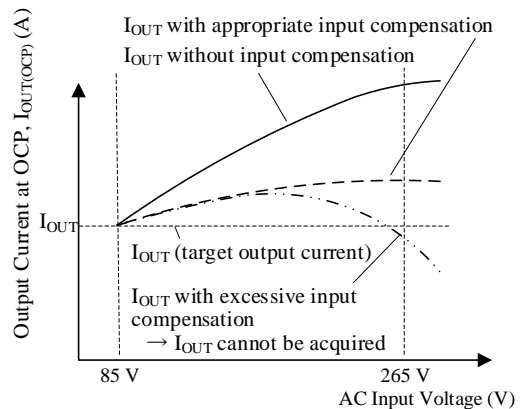
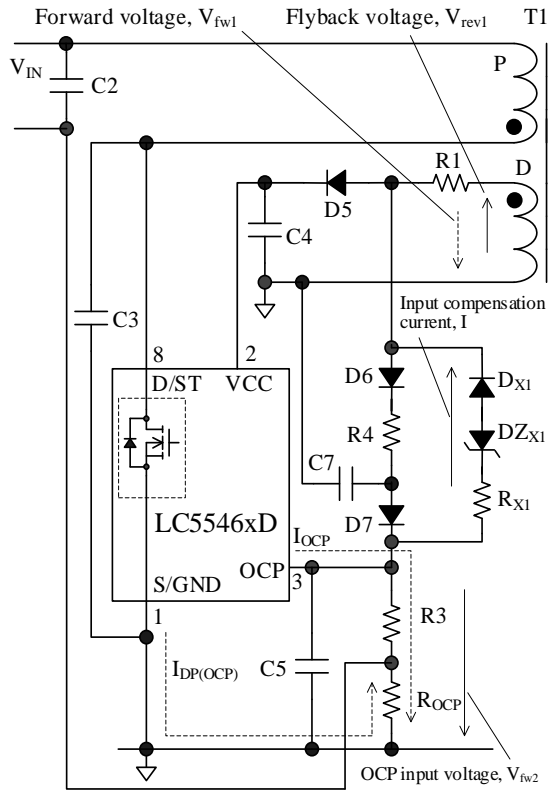
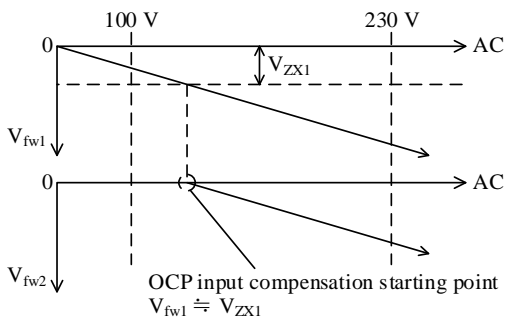

Figure 9-30. AC Input Voltage vs. Output Current at OCP (with or without OCP Input Compensation Function)
Figure 9-31. OCP Input Compensation Circuit
Figure 9-32. V_{fw1} and V_{fw2} vs. AC Input Voltages
Figure 9-30 shows the relationship between AC input voltage and the output current at OCP activation, $I_{OUT(OCP)}$, with the OCP input compensation function being activated or deactivated. When the IC without the input compensation, $I_{OUT(OCP)}$ increases as the AC input voltage increases (see “ I_{OUT} without input compensation” in Figure 9-30). To regulate $I_{OUT(OCP)}$ at the maximum AC input voltage, add the OCP input compensation circuit (D_{X1} , DZ_{X1} , R_{X1}) as shown in Figure 9-31. The values of these components should be adjusted so that $I_{OUT(OCP)}$ at the maximum AC input voltage exceeds the target output current, I_{OUT} (see “ I_{OUT} with appropriate input compensation” in Figure 9-30).
Figure 9-31 shows the OCP input compensation circuit, and Figure 9-32 shows the V_{fw1} and V_{fw2} voltages according to the AC input voltage. The compensation amount of V_{OCP} depends on values of the input compensation current, I , R_{X1} , $R3$, and R_{OCP} . The input compensation current, I , is calculated by the following equation:
For other component numbers, such as resistors, see Figure 9-31.
$I_{DP(OCP)'}$ in the maximum AC input voltage should be set to the peak drain current where the output current is equal to “ I_{OUT} with appropriate input compensation” in Figure 9-30.
- 4) In the maximum AC input voltage (265 VAC) condition, measure the drain current, $I_{DP(OCP)}$ ', when the output current, $I_{OUT(OCP)}$, becomes the "I_{OUT} with appropriate input compensation" in Figure 9-30.
- 6) Confirm that the output current during OCP operation, $I_{OUT(OCP)}$, is similar to "I_{OUT} with appropriate input compensation" in Figure 9-30, in an actual operation throughout AC input voltage ranges. If $I_{OUT(OCP)}$ is not appropriate, be sure to adjust the constants of DZ_{X1} and R_{X1} by changing the compensation startup voltage, $V_{IN(OCP_ST)}$.